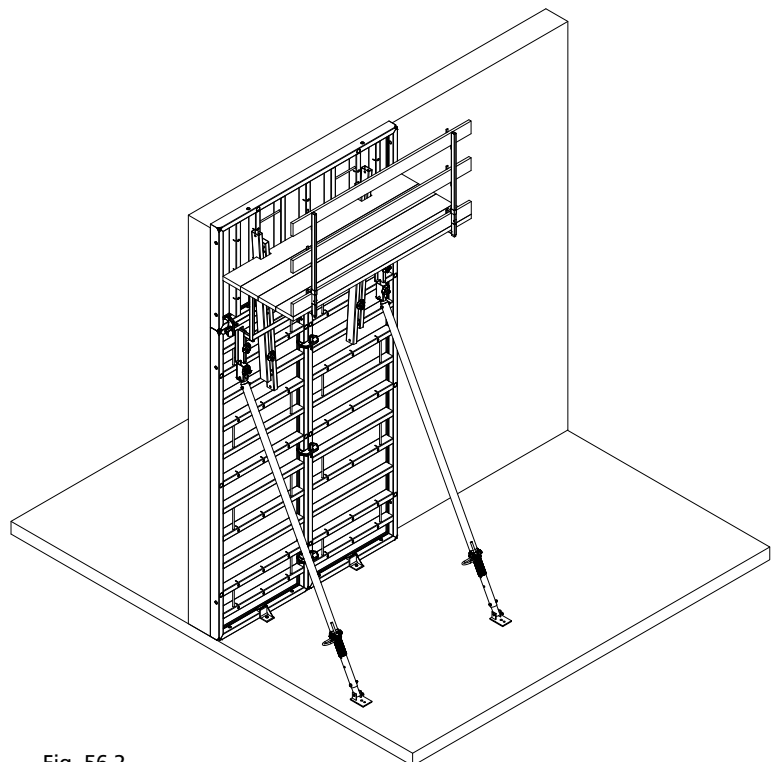

Fig. 56.2
**6.** Proceed with stripping the remaining gangs (Fig. 56.2).